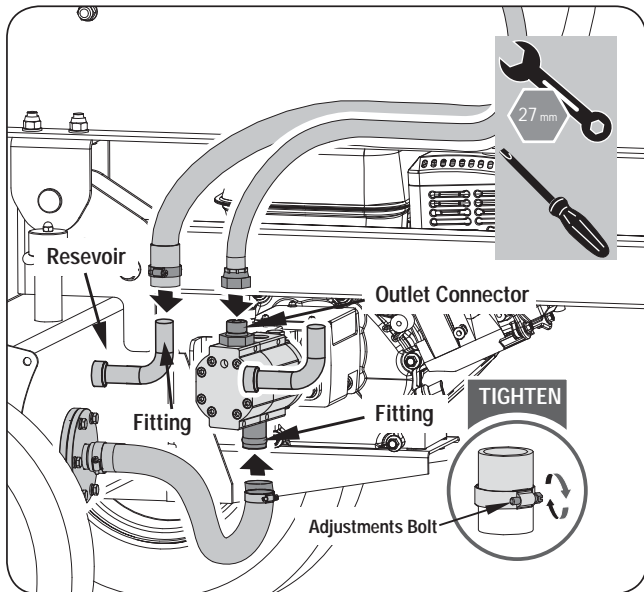

Figure 9e
- Suction Hose coming from the bottom of reservoir, Loosen the hose clamp on the end of this hose, then connect the hose to the fitting on the bottom of the pump. Tighten the hose clamp. (See *Figure 9e*.)